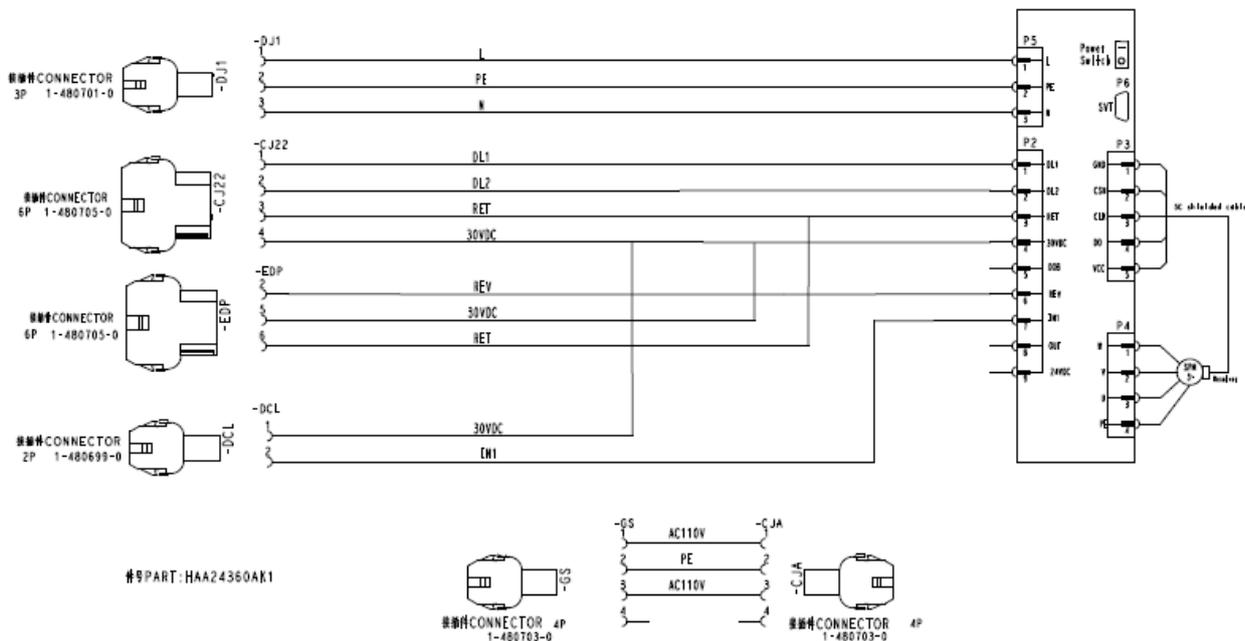

Fig.2-1 Wiring of HAA24360AK1, HAA24360AK3 controller
2.1.1 Wiring of HAA24360AK1,HAA24360AK3 controller components (as shown in Fig.2-1)